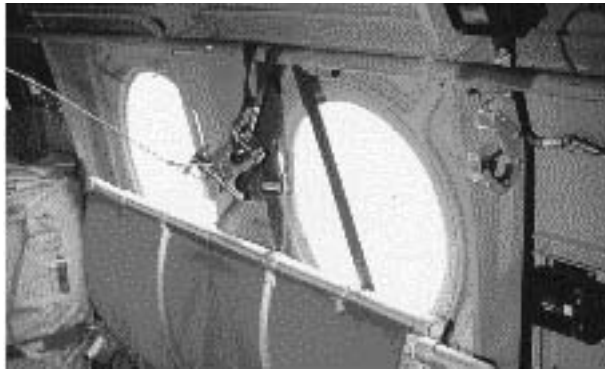

Figure 5-12. Secondary Anchor
(4) Attach the safety cable to the second double clevice utilizing a quick release pin. Pass the free end of the cargo sling through the cargo tie downs, up behind the lower rail, up over the upper rail. Pass the sling around the rail support and back down. Insert into slide bar and take out slack with slide bar adjuster. Attach the double clevice to the cargo sling loop with the carabiner and lock the gate. Tie a knot in the free end of the cargo sling to prevent slippage (Figure 5-12).